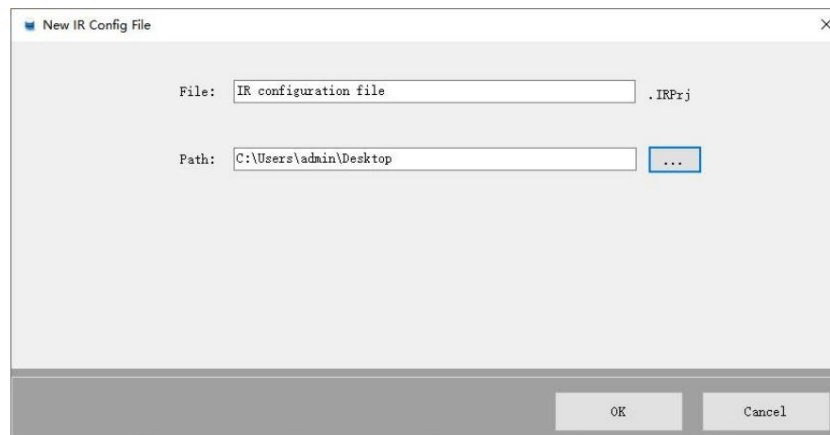

Fig.2.1(2) New IR configuration file
•New IR configuration file: Click the icon  to create a new configuration file (Currently only supports the creation of the format.IRPrj), as the following Fig.2.1(2).